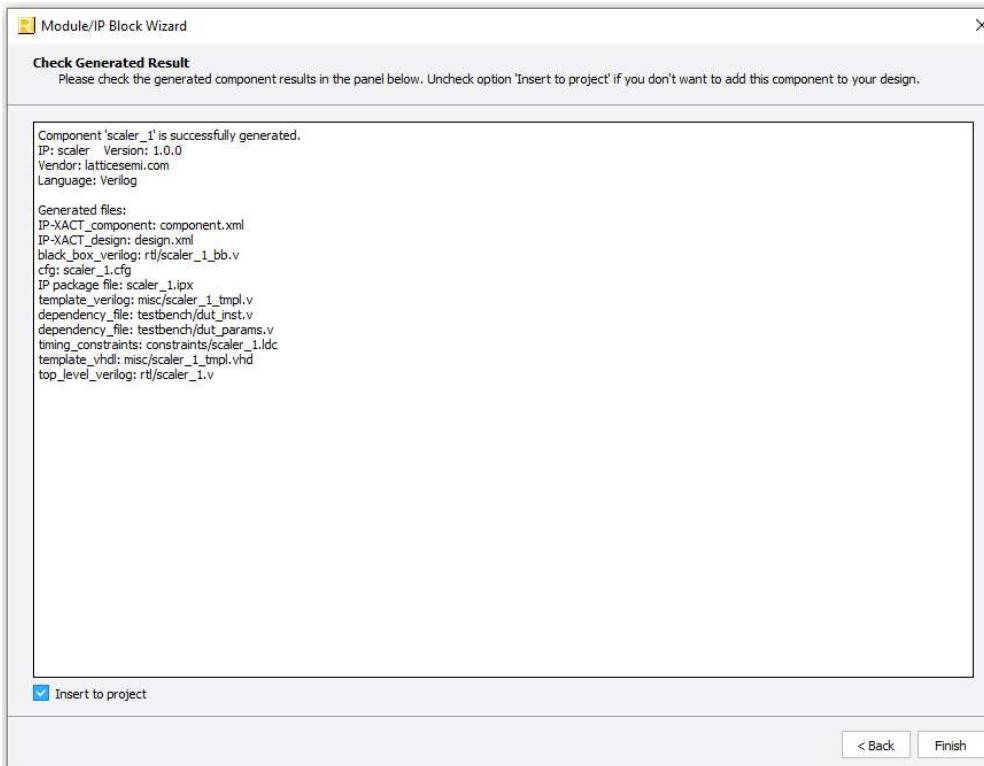

Figure 3.3. Check Generating Result
- Click **Generate**. The **Check Generating Result** dialog box opens, showing design block messages and results as shown in Figure 3.3